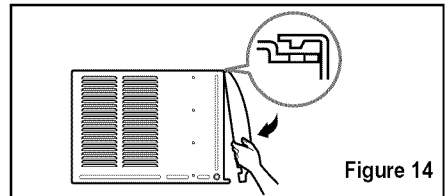

Figure 14
2. Attach the front grille to the cabinet by inserting the tabs on the grille into the tabs on the front of the cabinet. Push the grille in until it snaps into place. (See Figure14)